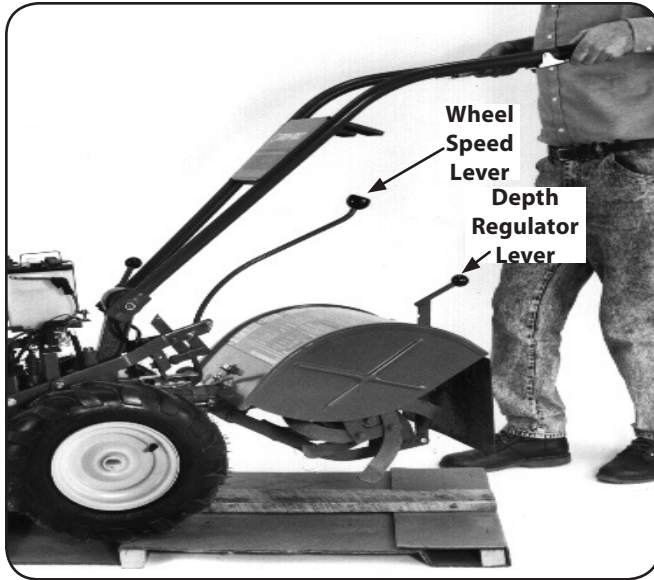

Figure 3-2
1. Set the Depth Regulator Lever to the "TRAVEL" position. Do this by lifting the tiller by the handlebars, then pulling straight back on the lever and sliding down to the highest notched setting. See Figure 3-2.
2. Set the Wheel Speed Lever to the Freewheel position. To do this, move the lever approximately halfway between the Fast and Slow settings while you rock the tiller forward and backward until the wheels move freely. See Figure 3-2.